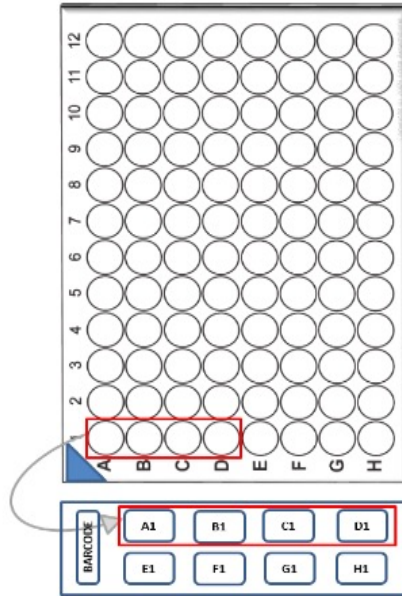

Figure 1
- From the Hyb plate, load **40 µL (Critical Volume)** of each sample onto a gasket slide in the order shown in **Figure 1**.